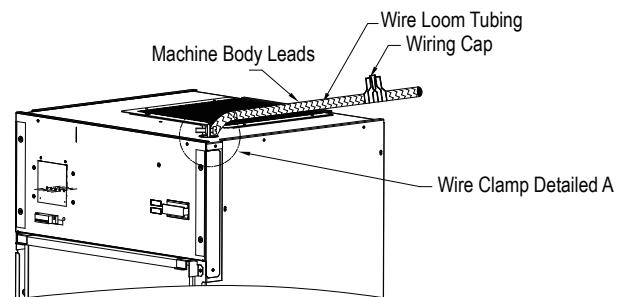

Fig 3
- 3- Pass all the power supply leads into the wire loom tubing, see Fig 3.